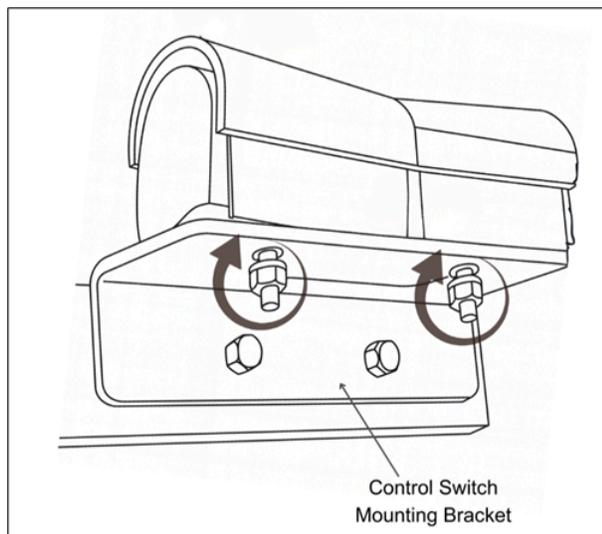

Figure 11 - Control Switch Mount
1. Mount the front control switch to the mounting bracket on the tabletop frame (refer to Figure 11). If your unit has the optional hand control, reference step 4.